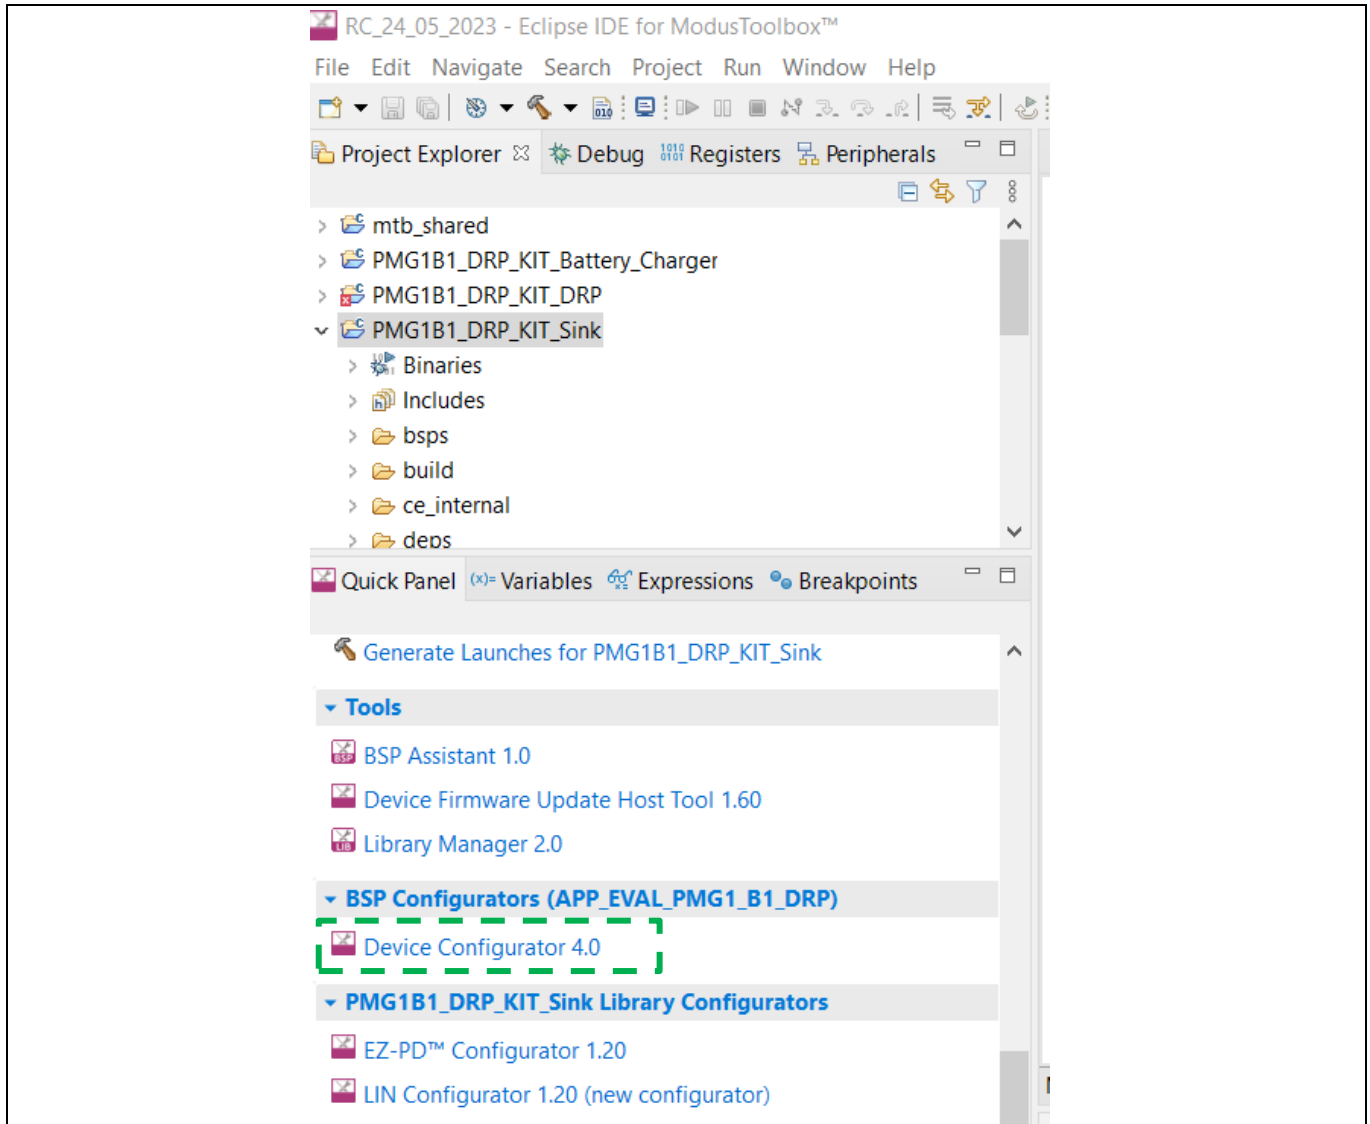

Figure 19 Device configurator
- The Device Configurator window pops up, as shown in Figure 19.